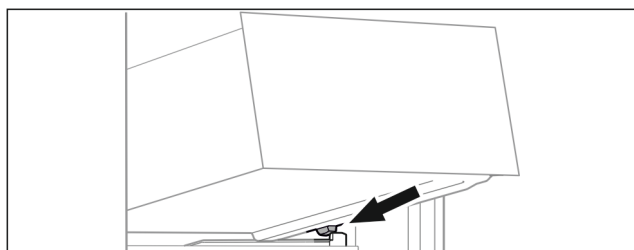

Fig. 65
- ▶ Place drawer at an angle behind the stoppers on the molded rib. (see Fig. 65)